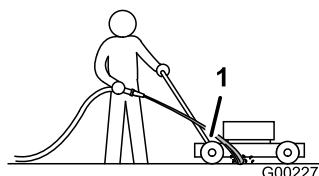

Figure 39
3. Hold the running garden hose at handle level and direct the water to flow on the ground just in front of the **right** rear tire (Figure 39).